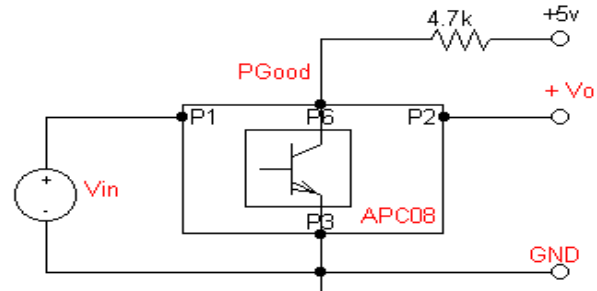

Figure 6. PG Good setup.
8. Refer to Figure 6 for the PGood configuration.
PG pin provides an output signal indicating the V_{out} is operational (TTL logic signal). It can sink current up to a max of 5mA and can have a maximum external pull-up voltage of 6V. Please see recommended setup shown on Figure 6.